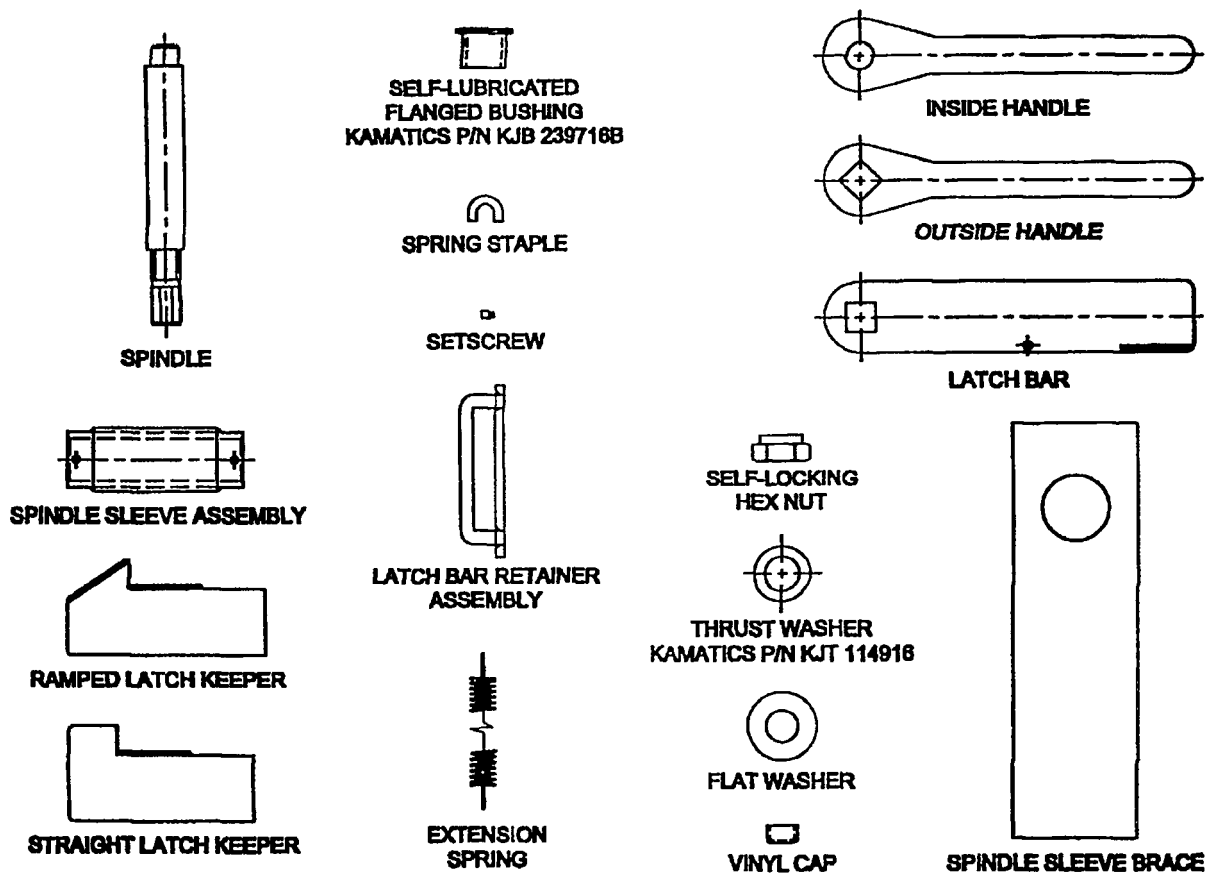
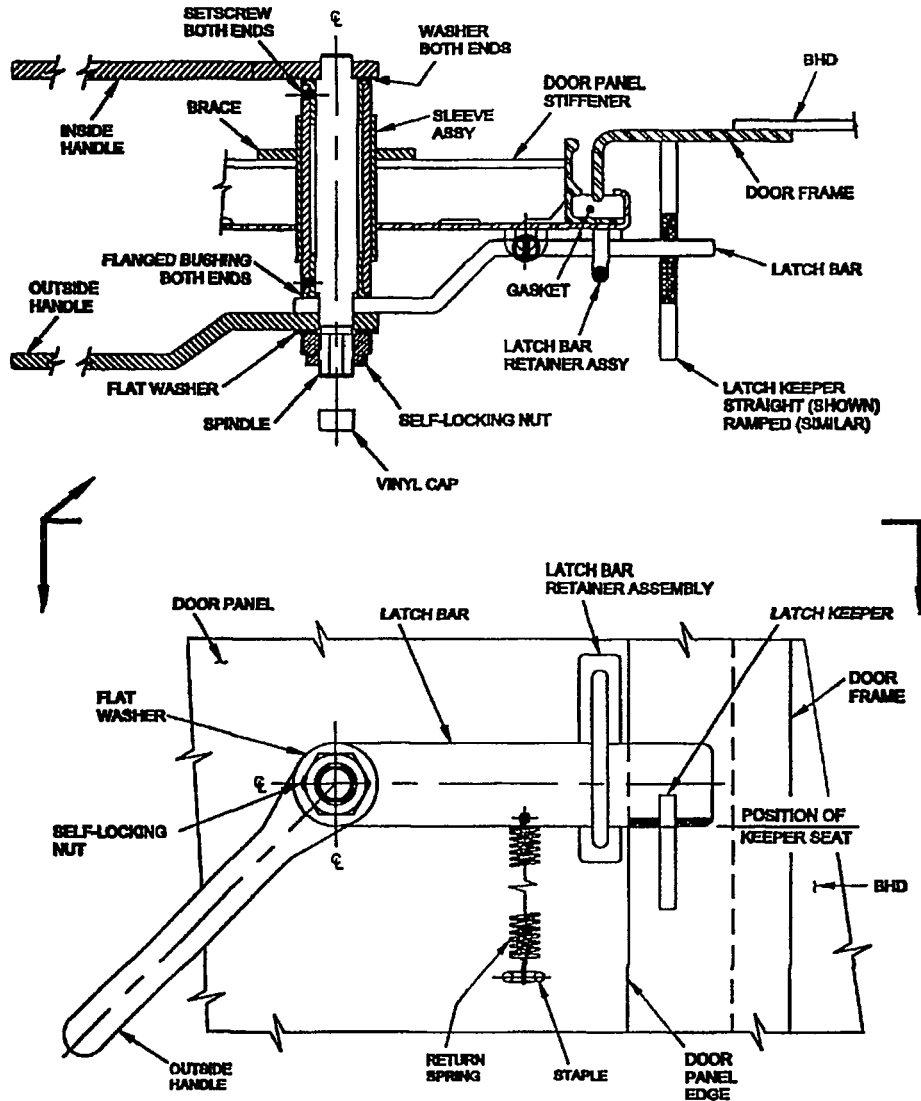

Figure 600-4.2. Latch Device Assembly Replacement Parts
Figure 600-4.3. Latch Device
With the exception of the keeper, parts for the CPS latch and the dog assist latch are identical, and are illustrated in figure 600-4.2. The latch is designed to require little maintenance. The two flanged bushings used are self-lubricating and are the exact same bushings used in the quick-acting door operating handle sleeve. The bushings are equipped with an external O-ring and an internal T-seal to provide a watertight seal for the spindle sleeve. The commercial off-the-shelf type extension spring is externally mounted and easily repaired or replaced. All components of the latch assembly are CRES 316 and do not require preservation. Replacement parts are available in the Navy Stock System and can be identified on the applicable Allowance Parts List (APL).
- b. See figure 600-4.2 and figure 600-4.3 for identification of components, and inspect latch for the following: